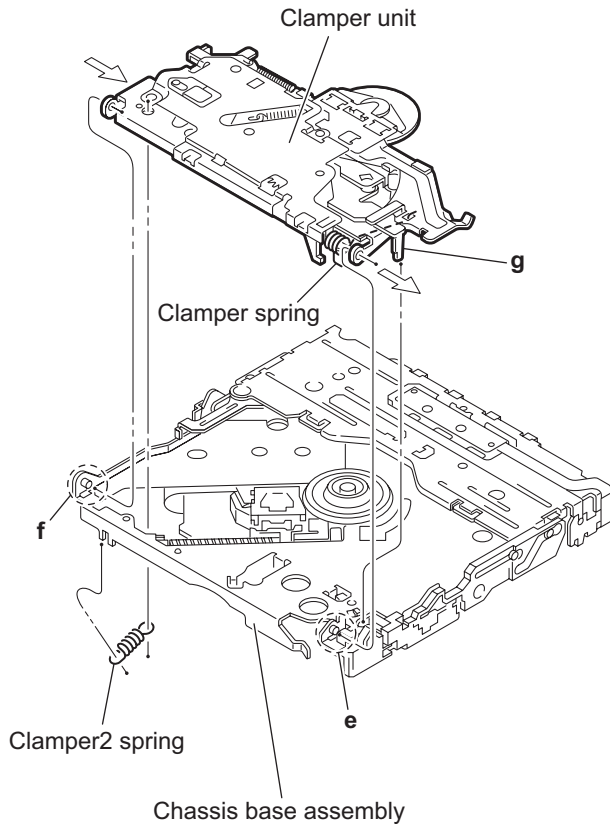

Fig.5
(See Fig.5 to 7)**
- (1) Remove the clamber2 spring on the bottom of the mechanism section. (See Figs.5.and 6.)
(See Fig.5 to 9)**
- (2) Move the clamber unit to set the side joints **e** and **f** to each boss of the chassis base assembly. Make sure that part **g** is inserted to the notch of the chassis base assembly. (See Figs.5 and 9.)
- (4) Attach the clamber2 spring to the chassis base assembly. (See Figs.5 and 6.)